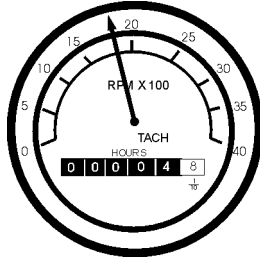

Figure 45. Engine Tachometer
13. The tachometer (Figure 45) will indicate the speed of the engine when the generator is operating. Under normal operating conditions this speed should be approximately 1800 RPM's.